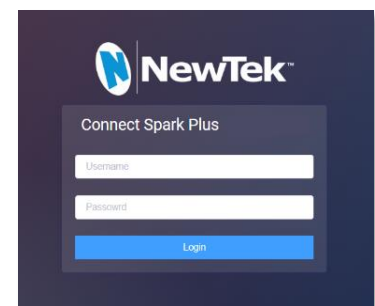

FIGURE 9
5. Click the gear to open the corresponding web page, popping up a request for you to enter login credentials (Figure 9).